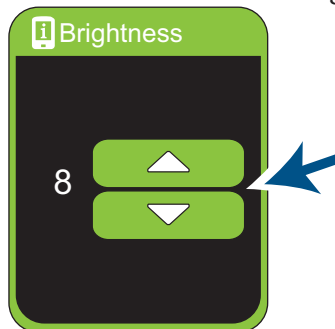

Figure 89. Increasing or decreasing the screen brightness
4. Tap  or  to increase or decrease the screen brightness (Figure 89).